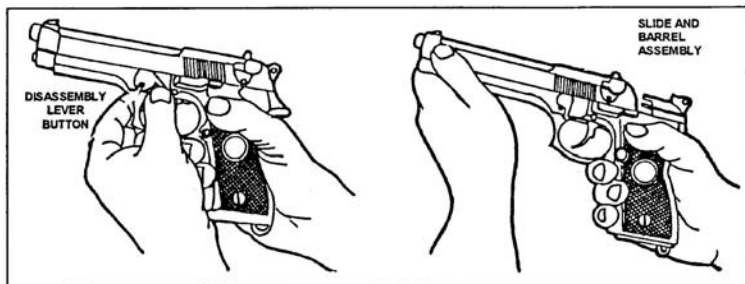

Figure 071-004-0001-1. Disassembly lever button
- c. With your forefinger, press the disassembly lever button (figure 071-004-0001-1).